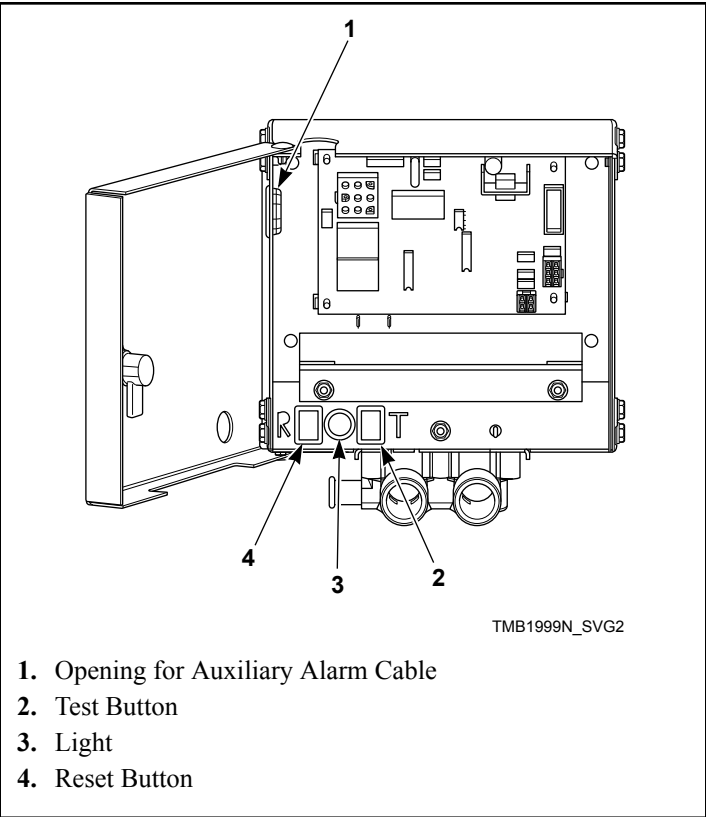
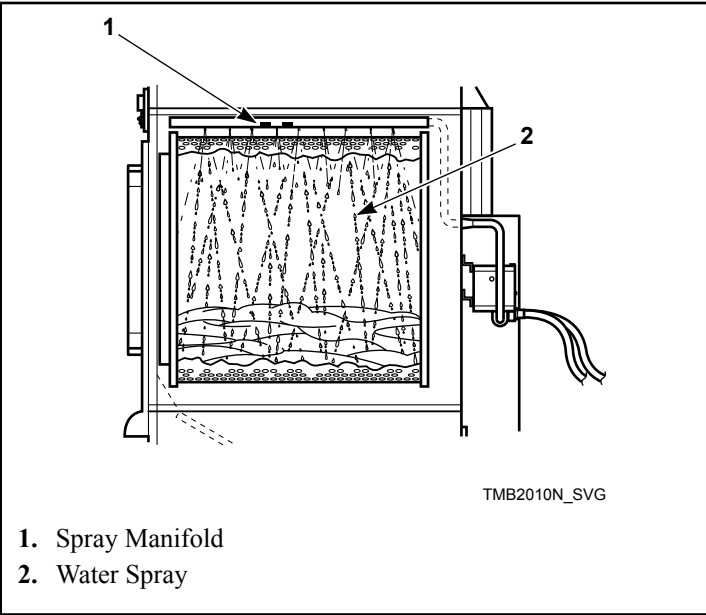

Figure 67
Figure 68
6. Press and hold the test button, verify the light is on, this should take approximately five seconds. Refer to *Figure 67* . After a one-second pause water should begin to spray into the cylinder.
7. After 15 seconds of water spray, press and hold the reset button until water spray is off and light is off. This should take approximately one second. Refer to *Figure 67* and *Figure 68* .